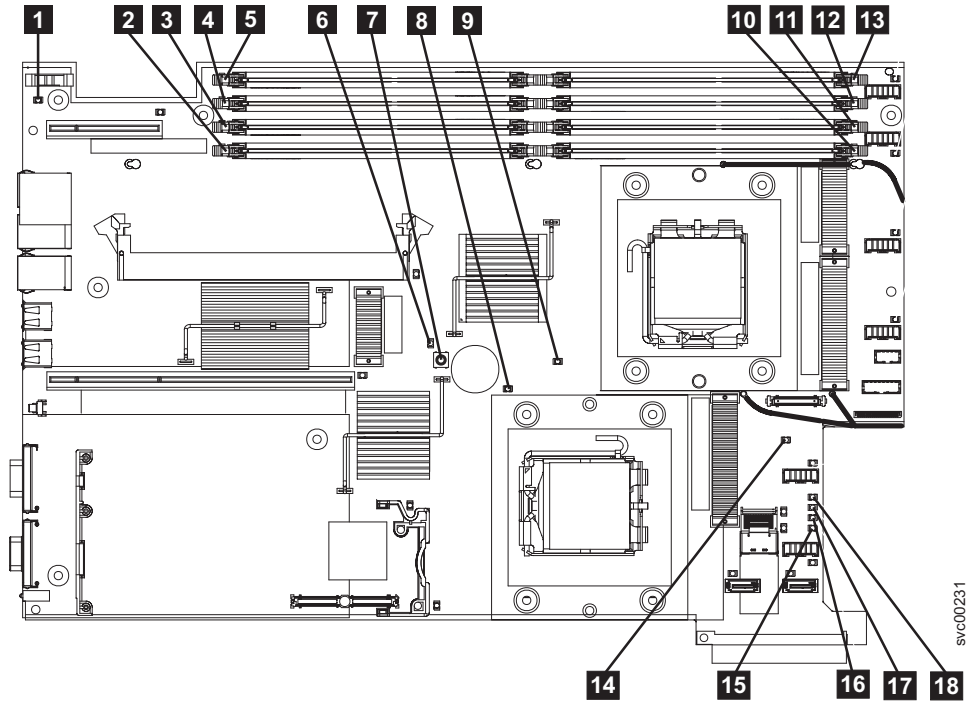

Figure 99. SAN Volume Controller 2145-8G4 system board LEDs
YES See Table 62 on page 291 and perform the action specified for the specific light path diagnostics LEDs. Then go to step 3 on page 292. Some actions will require that you observe the state of LEDs on the system board. Figure 99 on page 290 shows the location of the system board LEDs. The fan LEDs are located adjacent to each FAN. To view the LEDs you will need to do the following:
- d. Press the light path diagnostics button (**7** in Figure 99 on page 290).